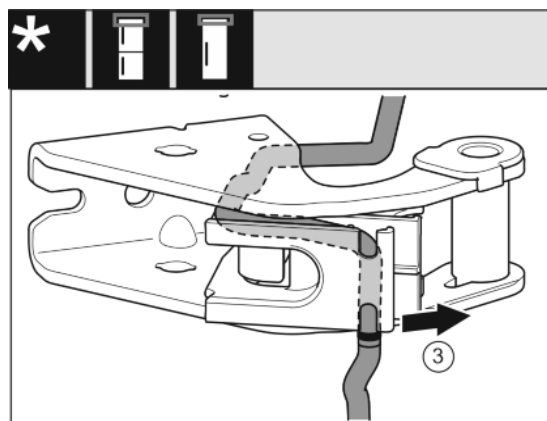

Fig. 22
- Remove the cable from the guide. Fig. 22 (3)